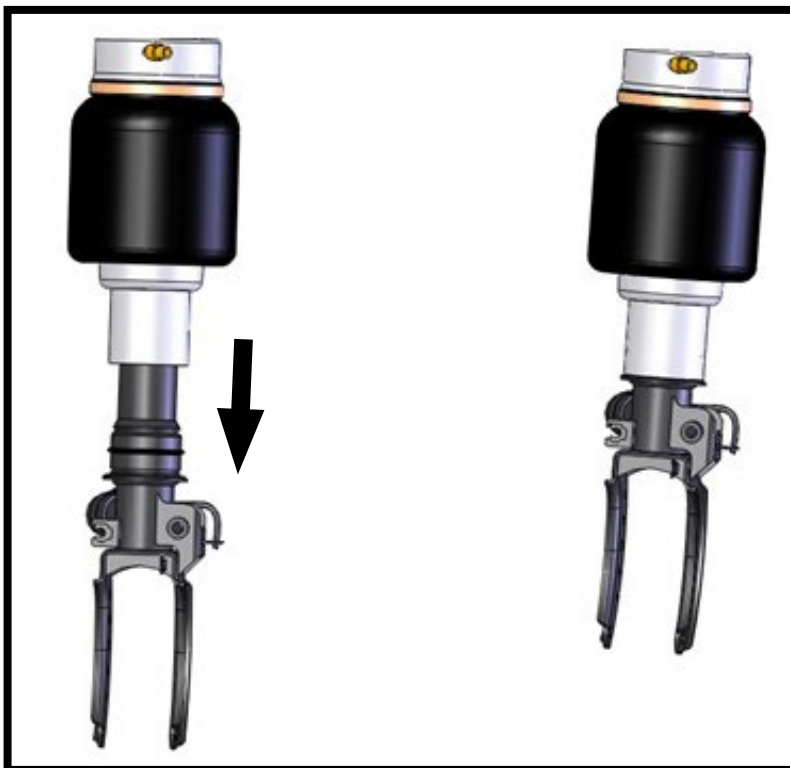

FIGURA 30-2
2. MONTARE IL NUOVO SOFFIETTO AD ARIA SULL'AMMORTIZZATORE. (FIGURA 30-2)